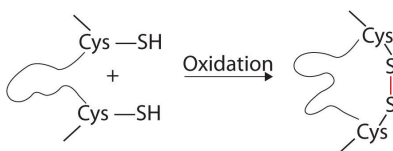

Figure 28.3p. Formation of disulfide linkages between two cysteine amino acid units (credit: Intro Chem: GOB \(v. 1.0\), CC BY-NC-SA 3.0).
3. Disulfide linkages. Two cysteine amino acid units may be brought close together as the protein molecule folds. Subsequent oxidation and linkage of the sulfur atoms in the highly reactive sulfhydryl (SH) groups leads to the formation of cystine (part (c) of Figure 28.3o. and figure 28.3p.). Intrachain disulfide linkages are found in many proteins, including insulin (yellow bars in Figure 28.3k.) and have a strong stabilizing effect on the tertiary structure.